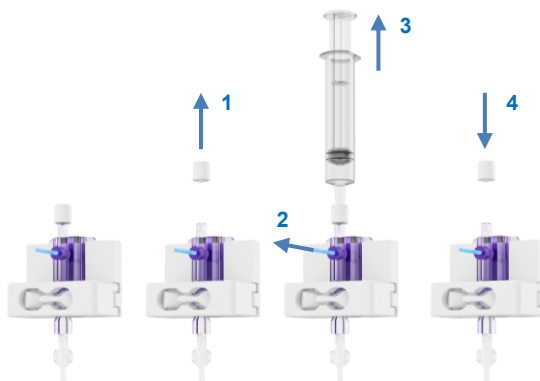

Figure 23 De-airing the pressure sensor
- Remove the cap on top of the pressure sensor and place a sterile syringe on the port (Figure 23; step 1).
- To fill the pressure line and remove any air, pull the blue snap tab (Figure 23; step 2) while aspirating with the syringe (step 3). Stop once the air has been removed.
- Place the cap back on the pressure sensor (Figure 23; step 4)